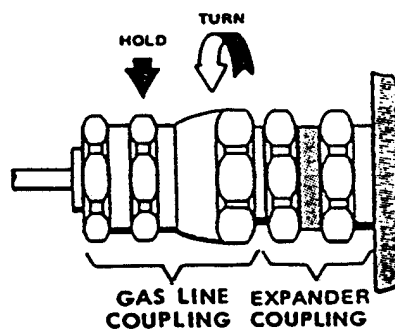

Figure 5 Disconnect Gas Line from Cold Head
2. After breaking the connection, hold the coupling adapter with one wrench. Remove the gas line coupling from the cold head coupling with the second wrench. See Figure 5.